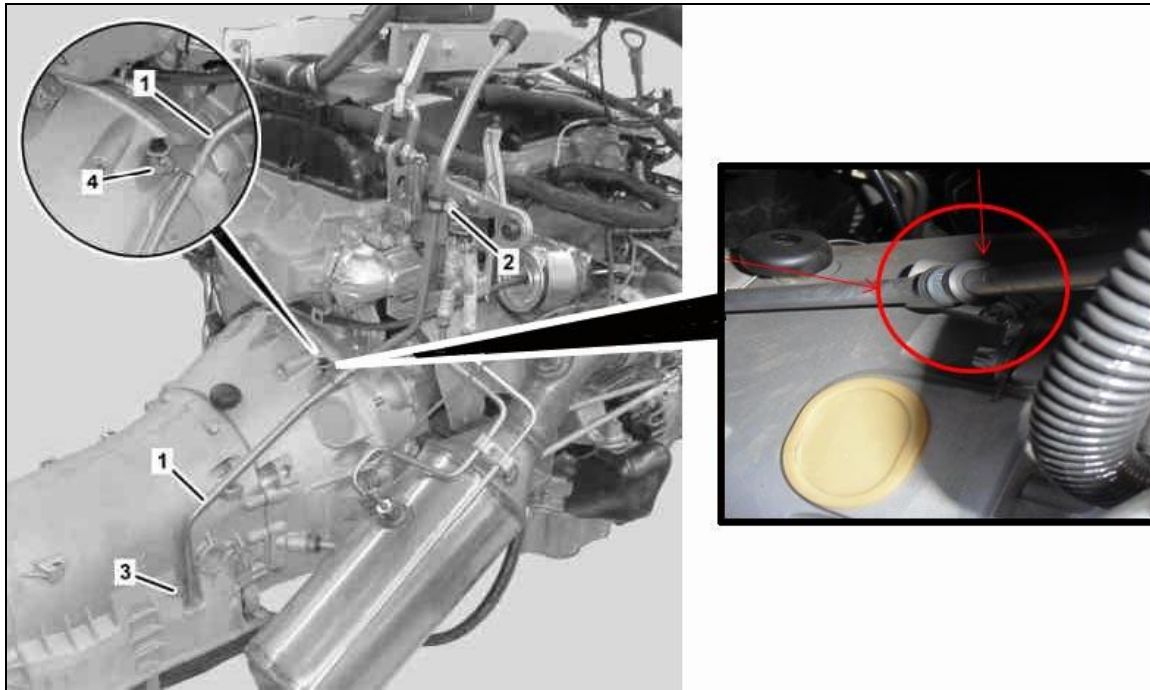
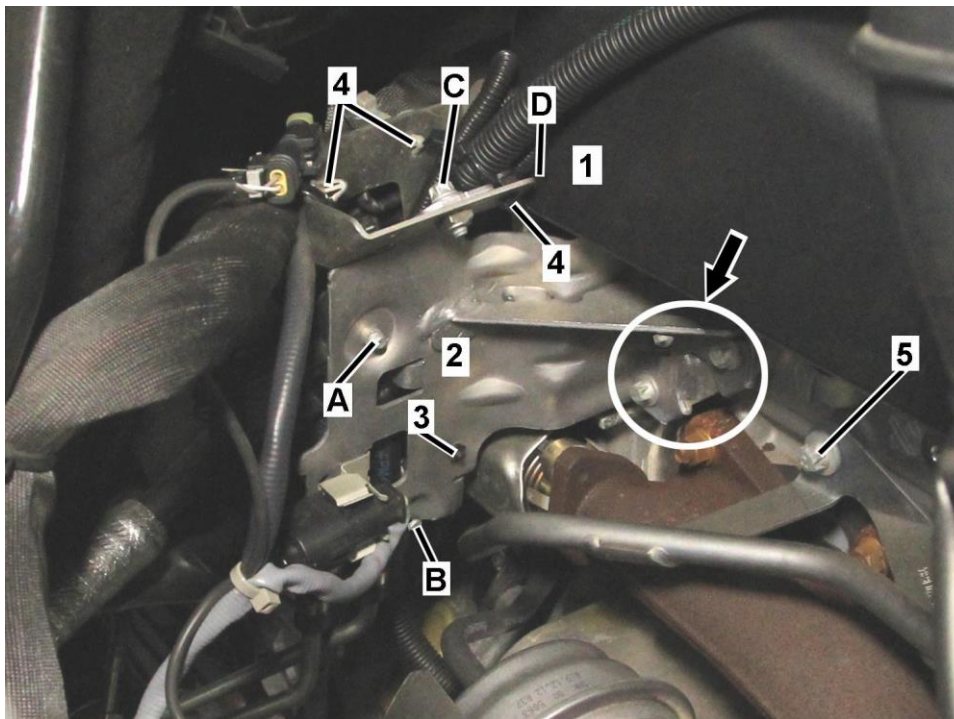

Figure 4 (shown on vehicle up to 8/31/10)
Figure 7
10. Remove transmission dipstick tube mounting bolt (4, Figure 4).
11. Loosen transmission dipstick tube (1, Figure 4) **Do not** remove transmission dipstick tube.
- 2 Transmission dipstick tube mounting screws (4, Figure 4 and 5, Figure 7): 8 Nm..
- Mounting bracket screw (arrows, C, Figure 7): 9 Nm.
- Differential pressure sensor screws (A, B, Figure 7): 8 Nm.
- Be sure to reinstall cable mounting clip (3, Figure 7). In the event of damage to mounting clip, replace with part no.: A 007 997 5690